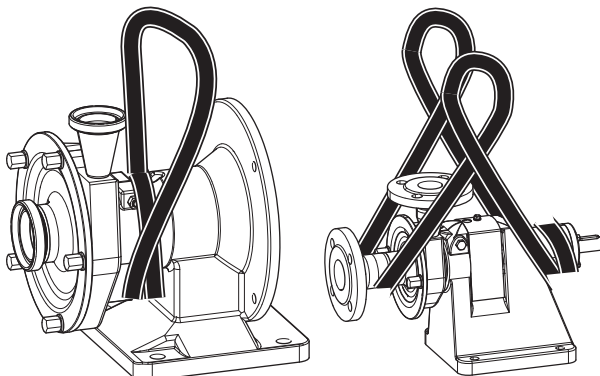

Fig. 57 Moving with crane
1. Wrap the round sling twice around the lantern neck (see Fig. 57, "Moving with crane," page 35).
1. Wrap the round sling twice around the back end of the bearing block (see Fig. 57, "Moving with crane," page 35).